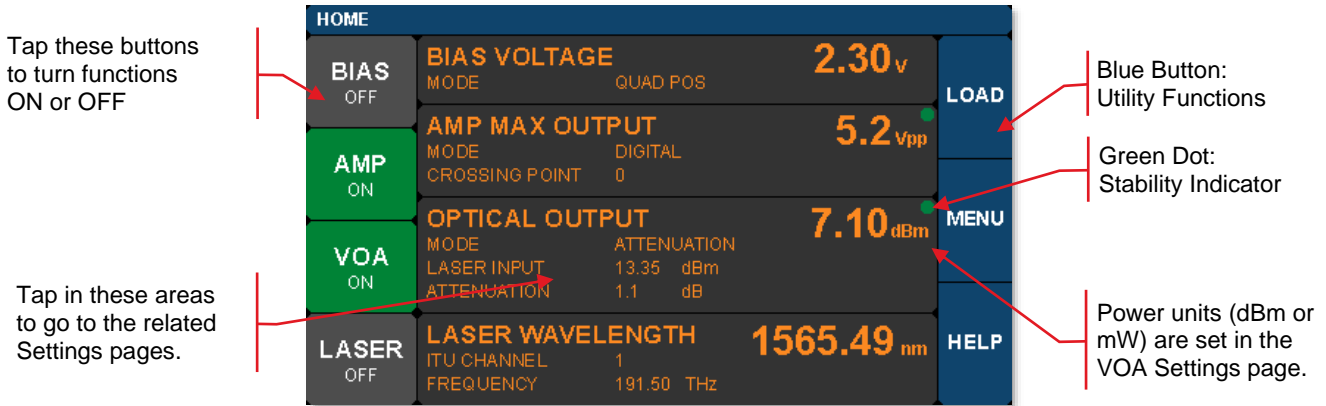

Figure 10 Home Screen Features
4. Turn the laser on by tapping the lower-left touchscreen button on the Home page (Figure 10). Use the utility menu page to adjust the calibration wavelength if desired (Section 3.3).
5. Enable the bias controller by tapping the top-left touchscreen button on the Home page (Figure 10). Wait for completion of the calibration process. The instrument will enable the default Quadrature mode with positive slope bias point (Section 4.3).
6. Take note of the output power, which is shown in the center right section of the Home page (Figure 10).
7. Turn on the VOA controller to adjust output power, if desired, by tapping the center-left touchscreen button on the Home page (Figure 10 and Section 4.5).
8. Turn on the AMP controller to set desired swing level (Figure 10 and Section 4.4).